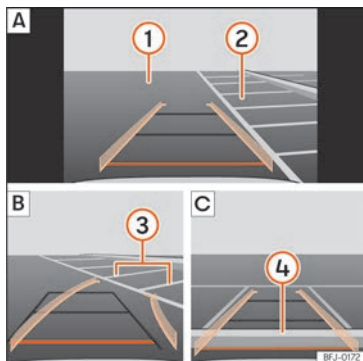

Fig. 212 Display on the Infotainment system screen.: parking with reverse assist.
Key to the **Fig. 212**:
- With reverse assist connected and in working order, press the function button **Fig. 212**.
- Place the vehicle in front of the parking space **Fig. 212** **two** **A**.